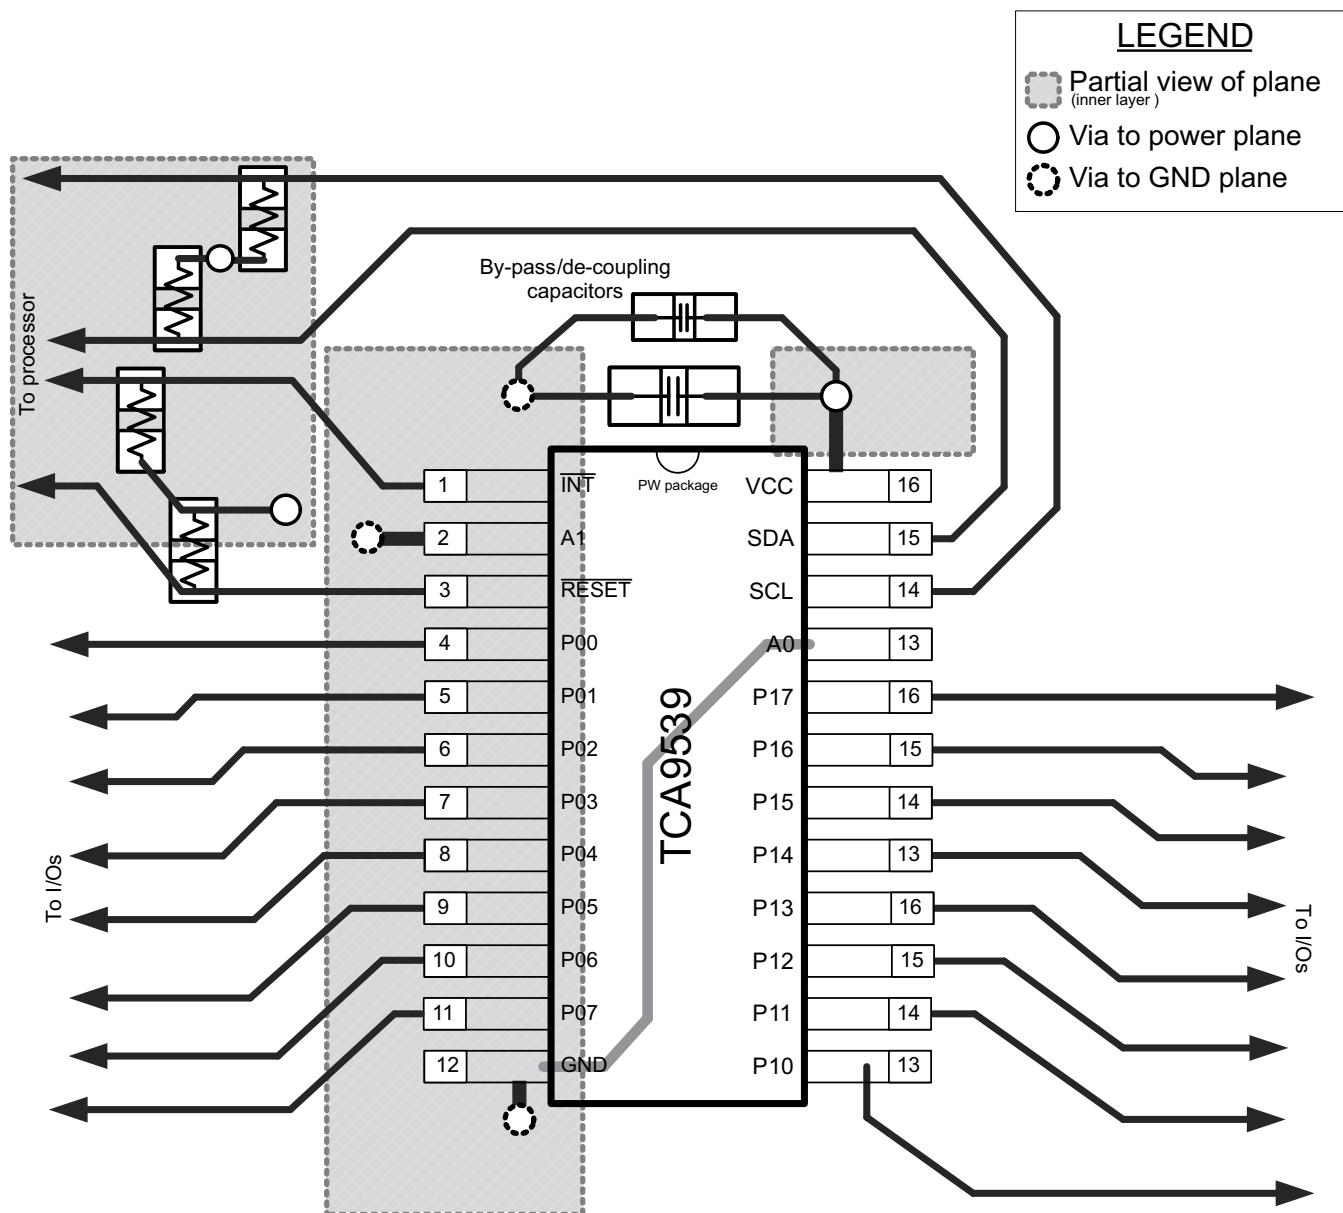

Figure 42. TCA9539 Layout
In all PCB layouts, it is a best practice to avoid right angles in signal traces, to fan out signal traces away from each other upon leaving the vicinity of an integrated circuit (IC), and to use thicker trace widths to carry higher amounts of current that commonly pass through power and ground traces. By-pass and de-coupling capacitors are commonly used to control the voltage on the VCC pin, using a larger capacitor to provide additional power in the event of a short power supply glitch and a smaller capacitor to filter out high-frequency ripple. These capacitors should be placed as close to the TCA9554A as possible. These best practices are shown in Figure 42.
For the layout example provided in Figure 42, it would be possible to fabricate a PCB with only 2 layers by using the top layer for signal routing and the bottom layer as a split plane for power (V_{CC}) and ground (GND). However, a 4 layer board is preferable for boards with higher density signal routing. On a 4 layer PCB, it is common to route signals on the top and bottom layer, dedicate one internal layer to a ground plane, and dedicate the other internal layer to a power plane. In a board layout using planes or split planes for power and ground, vias are placed directly next to the surface mount component pad which needs to attach to V_{CC} or GND and the via is connected electrically to the internal layer or the other side of the board. Vias are also used when a signal trace needs to be routed to the opposite side of the board, but this technique is not demonstrated in Figure 42.